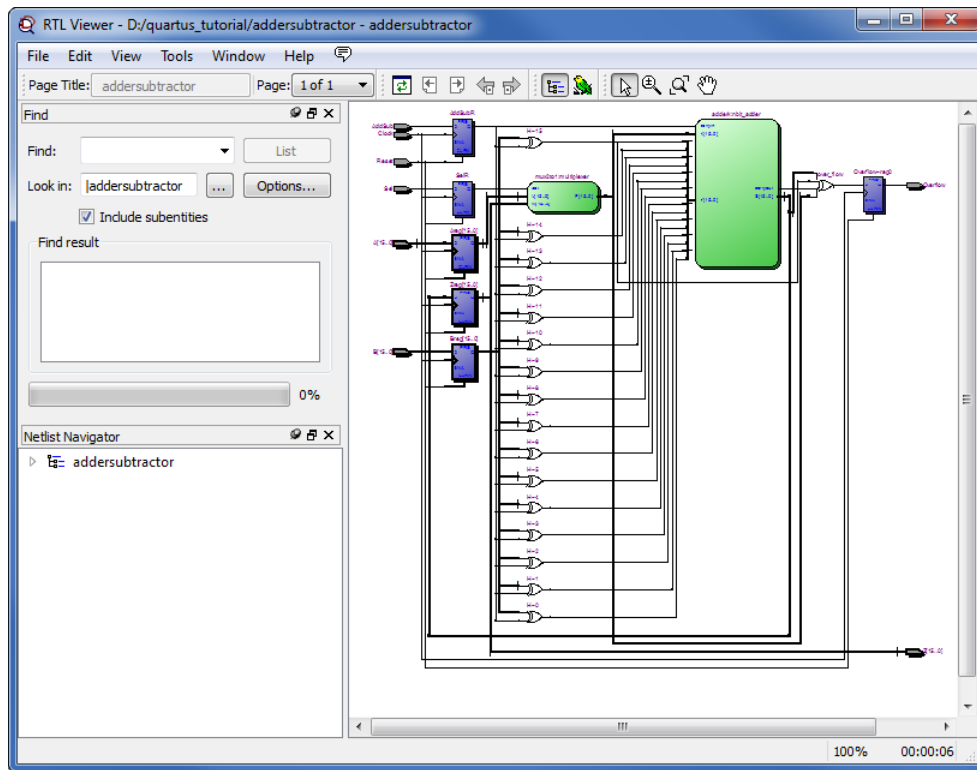

Figure 28: The *addersubtractor* circuit displayed by the RTL Viewer.
1. Click Tools > Netlist Viewers > RTL Viewer, to reach the window shown in Figure 28.